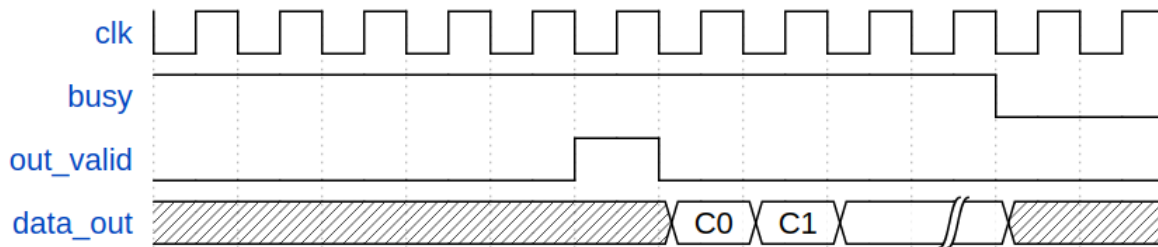

Figure 2: Output Protocol
9. After the last 16-bit output is given, *busy* signal should be brought to 0 and multiplier should accept new operands to be multiplied. An example timing diagram for output operation is shown in Figure 2.